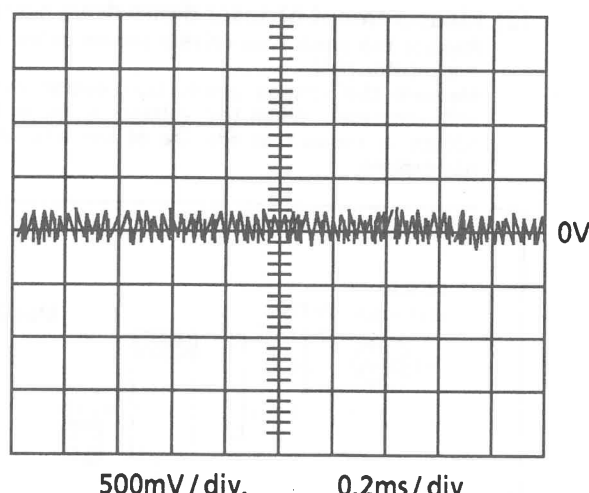

Figure. 2
- 3) Adjust R604(T.GAIN ADJ.) so that the waveform becomes below figure 2.